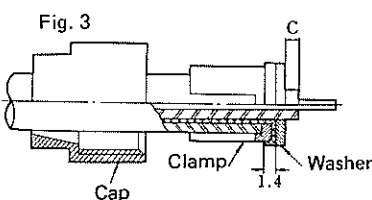

Fig. 3
7. In MSS-LP-1.5-A, after everything has been done up to Fig. 3, insert into the plug and then tighten the cap thoroughly.